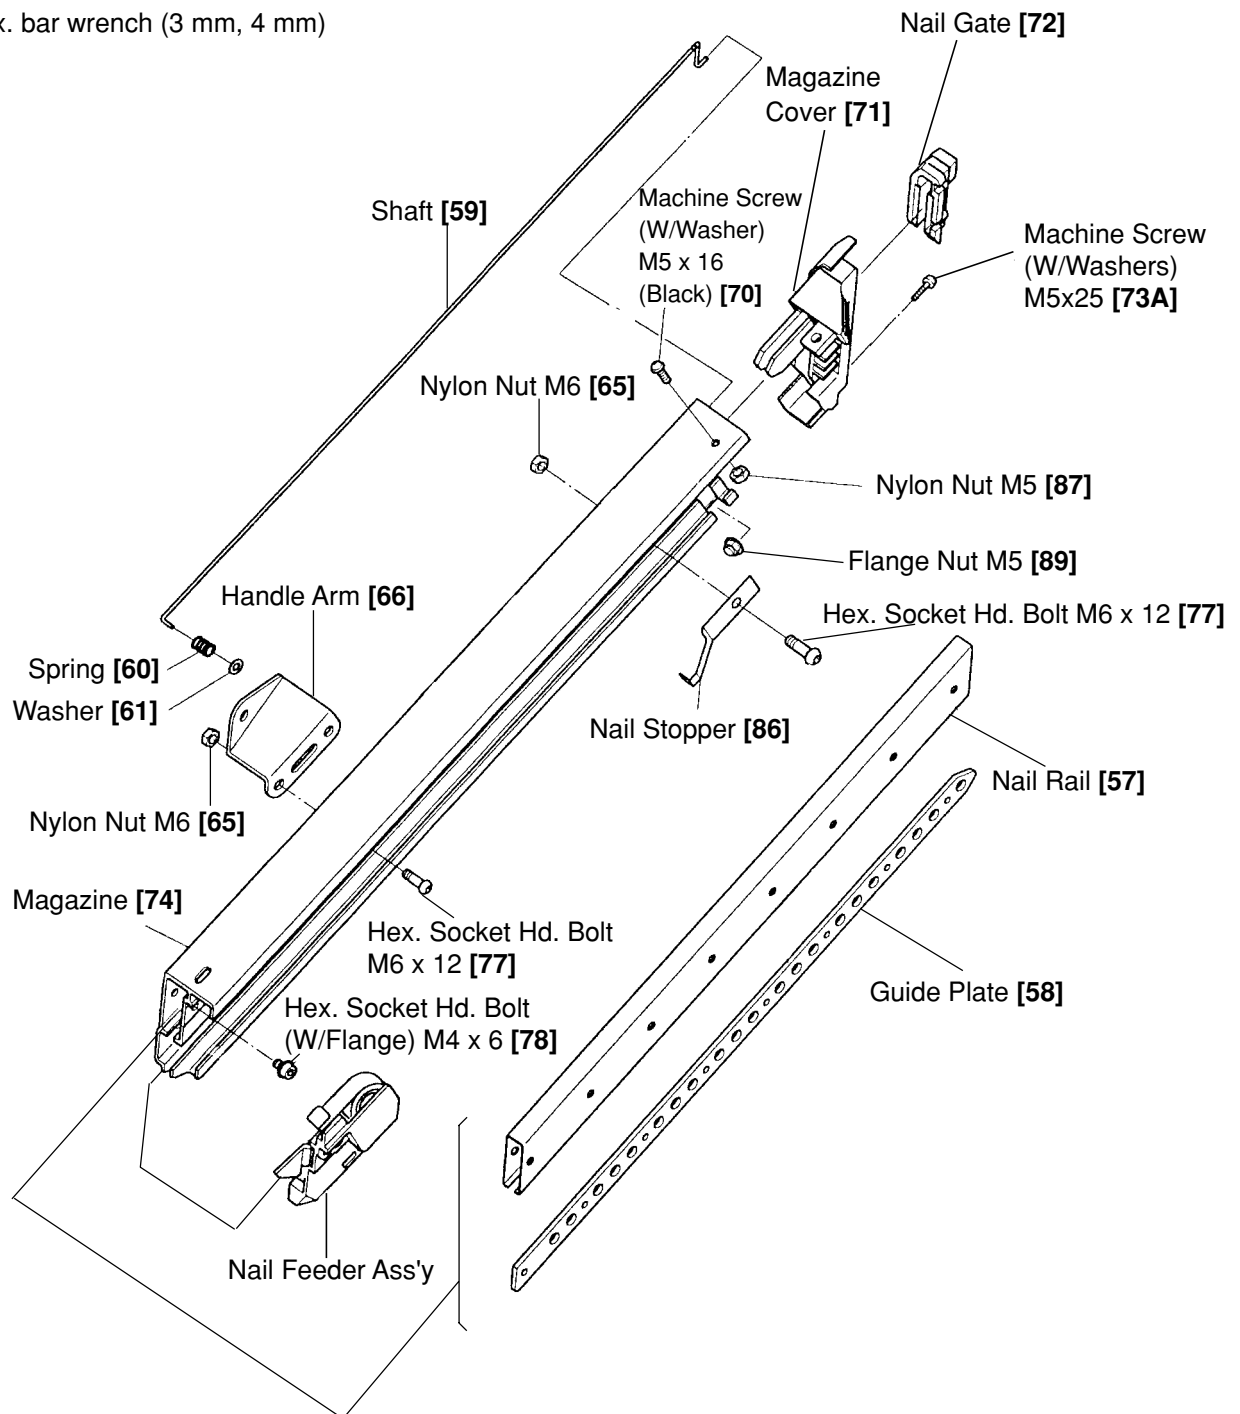

Fig. 35 Disassembly and reassembly of the magazine section
(3) Disassembly and reassembly of the magazine section (See Fig. 35.)